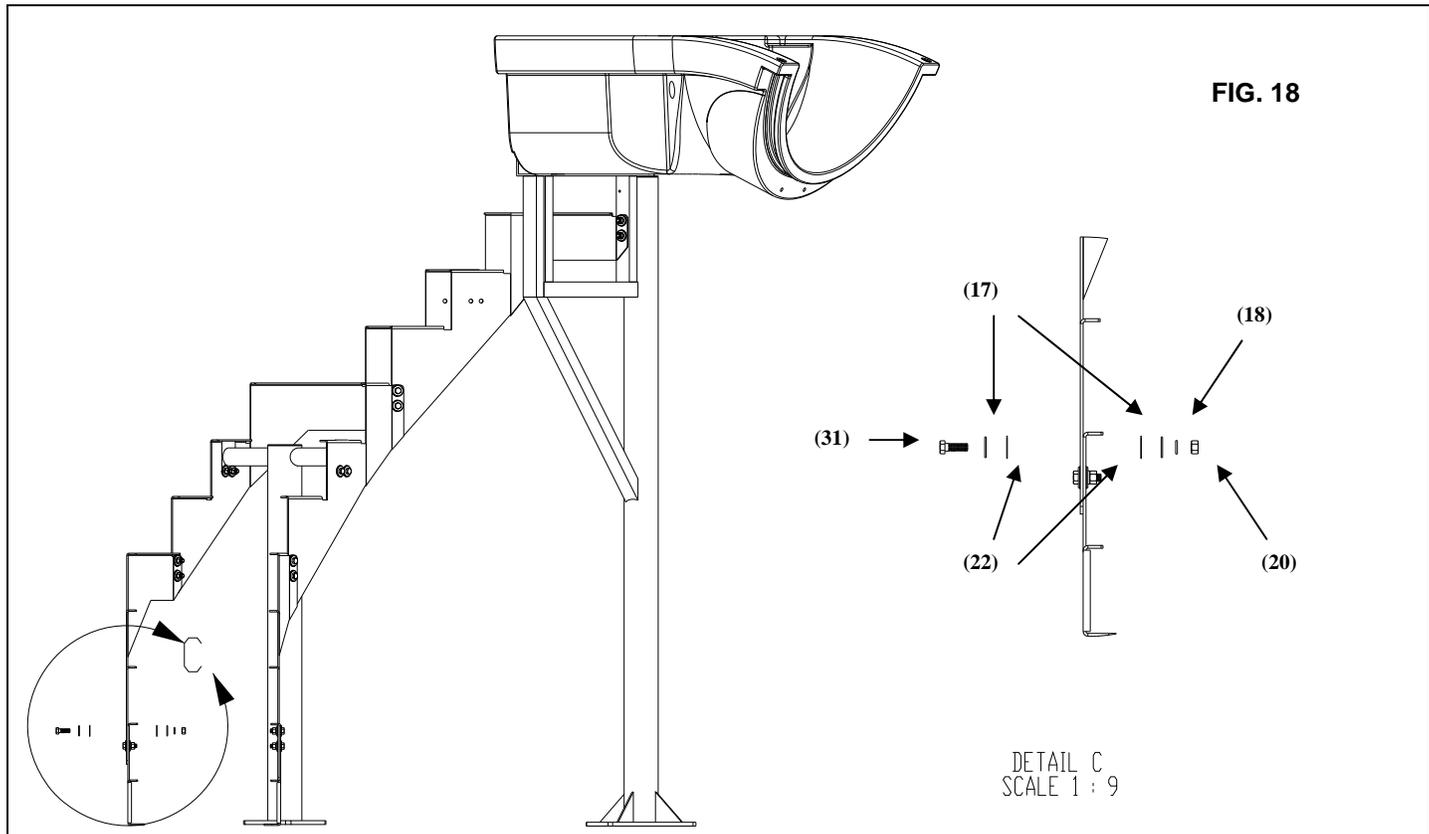

FIG. 18
4) Place the Bottom Outside Stair Bracket (40) in line with the two holes on the Outside Stair Bracket so that it is inside the stair bracket, as shown in Figure 18. Use the following hardware to attach the bracket to the main stair support: 1/2" x 1.5" Hex Head Bolt (31), 1/2" Flat Washer (17), 1/2" Nylon Washer (22), 1/2" Nylon Washer (22), 1/2" Flat Washer (17), 1/2" Lock Washer (18), and a 1/2" Hex Nut (20), see Detail C. Do not fully tighten yet.